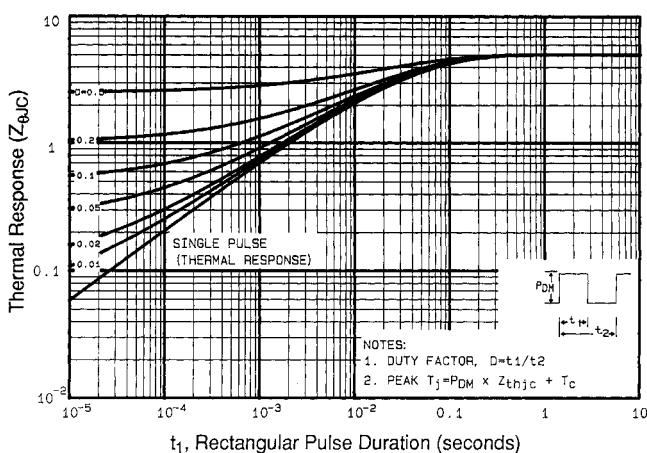

Fig 11. Maximum Effective Transient Thermal Impedance, Junction-to-Case
① Repetitive rating; pulse width limited by max. junction temperature (See Figure 11)
③ $I_{\text{SD}} \leq 1.7\text{A}$, $di/dt \leq 40\text{A}/\mu\text{s}$, $V_{\text{DD}} \leq V_{(\text{BR})\text{DSS}}$, $T_J \leq 150^\circ\text{C}$
② $V_{\text{DD}}=50\text{V}$, starting $T_J=25^\circ\text{C}$, $L=52\text{mH}$